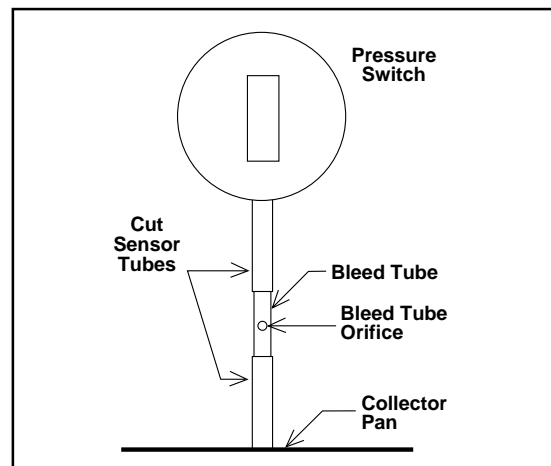

Figure 8. G6RA Bleed Tube Installation
1. Remove the rubber tubing from the pressure switch sensor tube and the collector pan sensor tube. Cut 1/2 inch from one end of the rubber sensor tube, fold in half and cut along the bend line. Discard the 1/2 inch long piece and place the other two pieces on both ends of the bleed tube, do not cover the hole in the bleed tube. Place the assembly back on the pressure switch sensor tube and the collector pan sensor tube. (See Figure 8.)